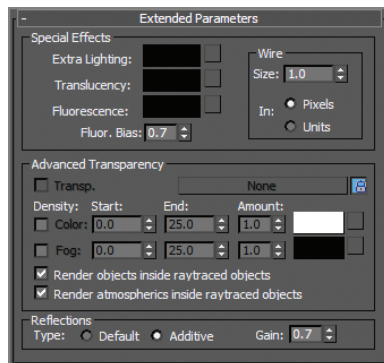

FIGURE 15.17 The Extended Parameters rollout for the Raytrace material
6. Go to the Extended Parameters rollout, shown in Figure 15.17. The Reflections section is at the bottom.